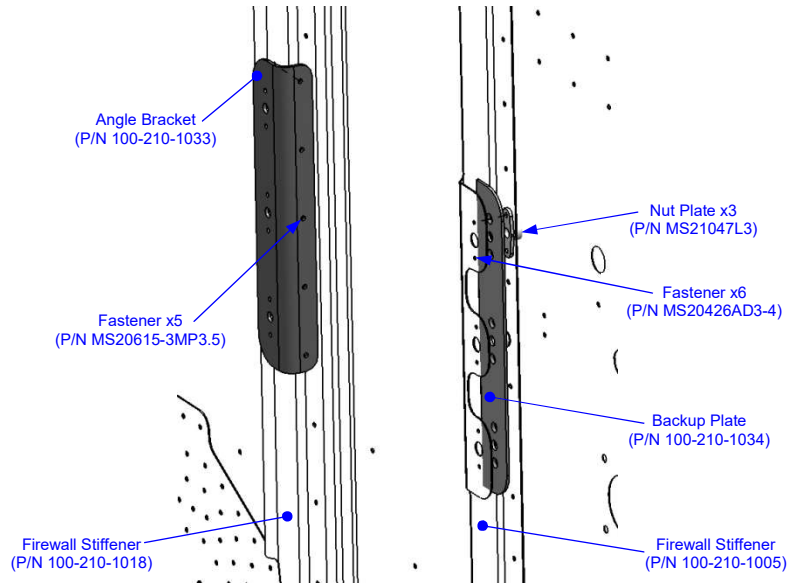

Figure 4-1: Battery Box Bracket Installation
Position and secure the backup plate (P/N 100-210-1034) and three (3) nut plates (P/N MS21047L3) using six (6) MS20426AD3-4 fasteners; refer to **Figure 4-1**. This installation is mirrored on the opposite side of the aircraft.
Position and secure the aluminum angle bracket (P/N **100-210-1033**) using five (5) **MS20615-3MP3.5** fasteners; refer to **Figure 4-1**. This installation is mirrored on the opposite side of the aircraft.